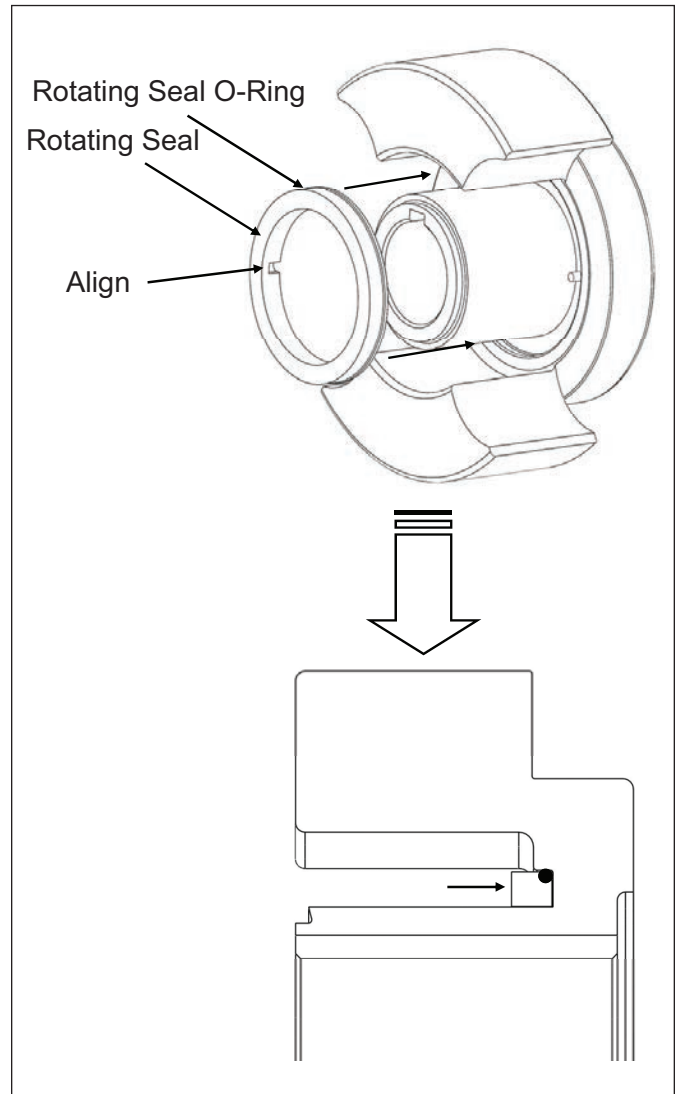

Figure 30. Inserting Rotating O-Ring
4. Slide the rotating seal onto the rotor hub (Figure 30) making sure to align the slots on the seal to the drive pins in the rotor. Press the seal down until it seats inside of the rotor.